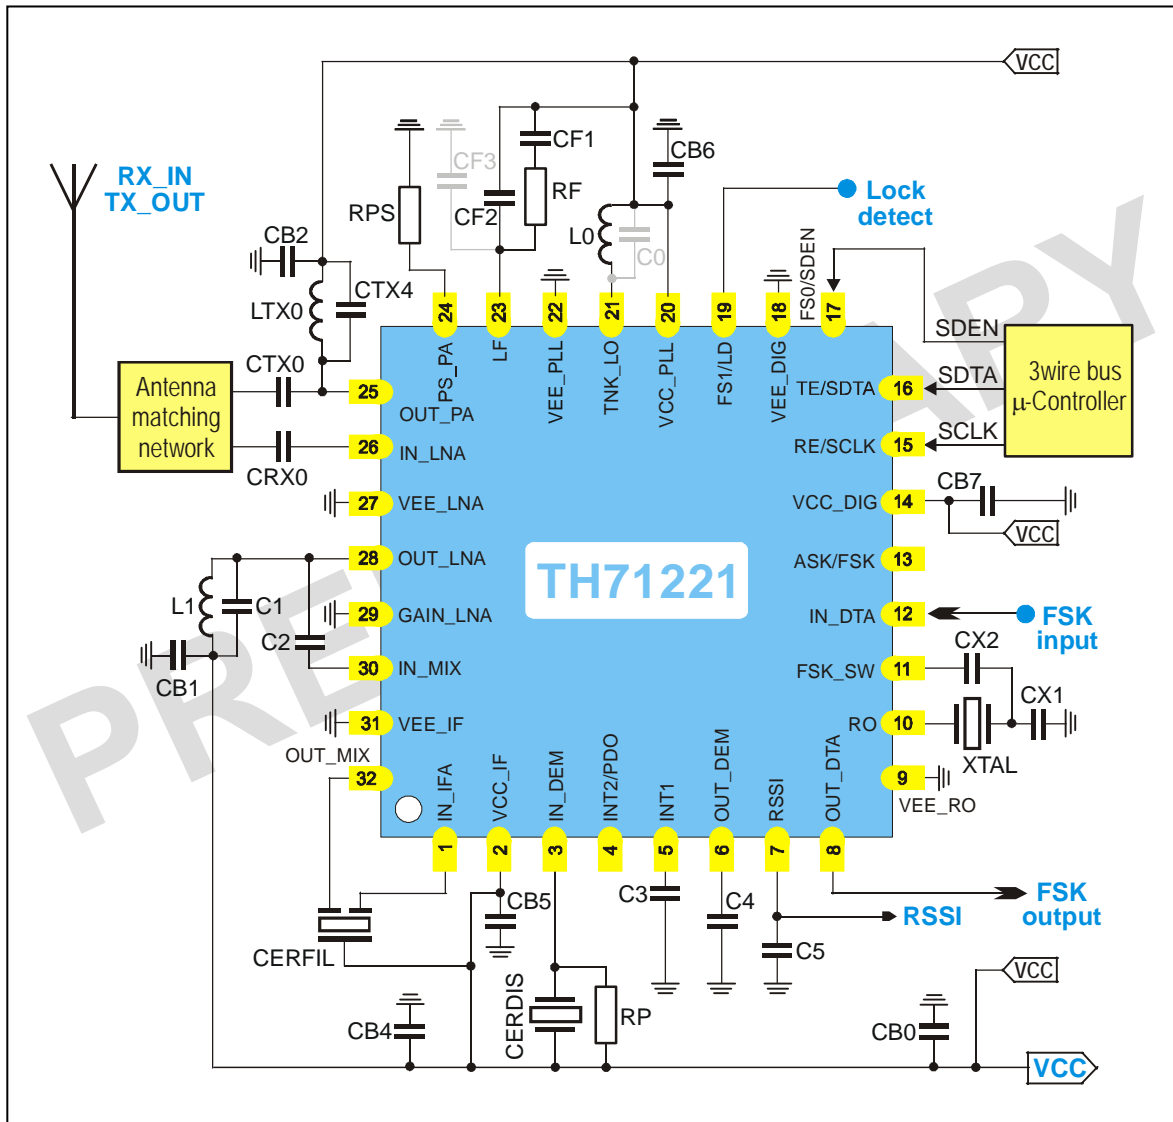
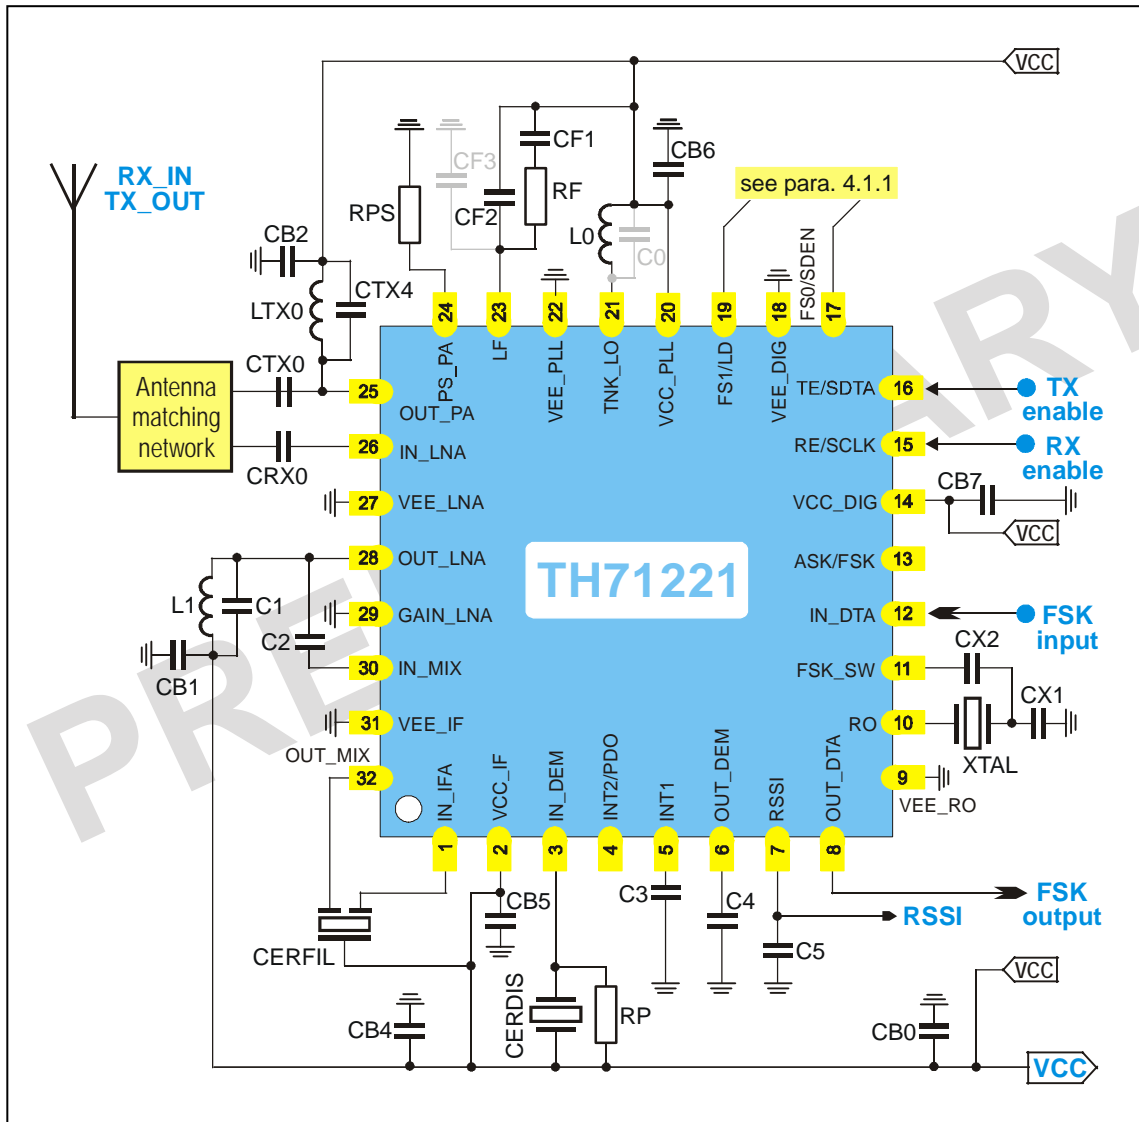
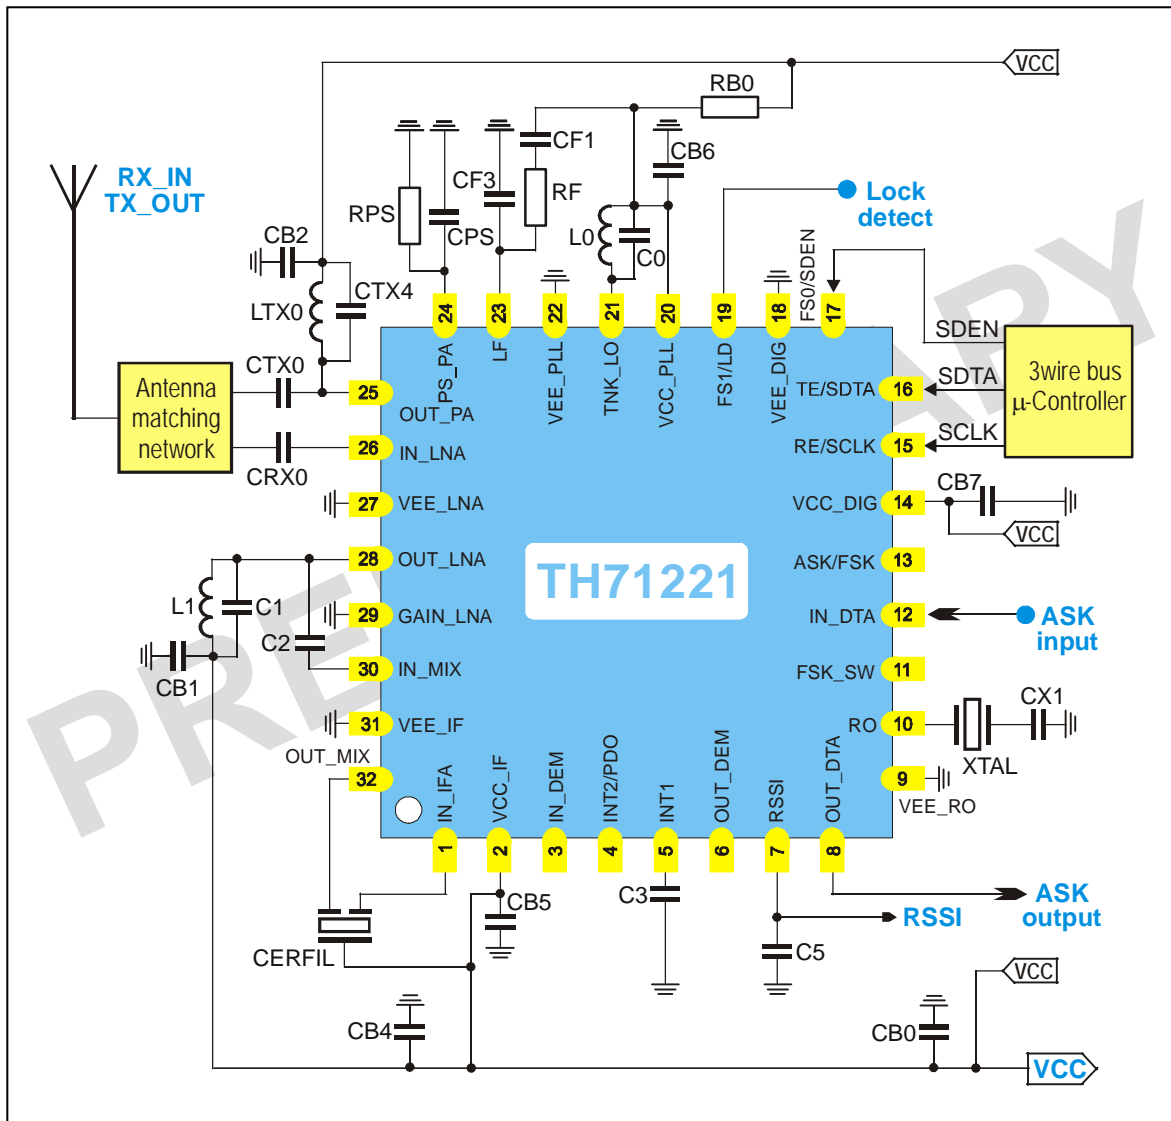

Fig. 14: Test circuit for FSK operation in Programmable User Mode (internal AFC by default)
Fig. 15: Test circuit for FSK operation in Stand-alone User Mode
Fig. 16: Test circuit for ASK operation in Programmable User Mode
all parameters under normal operating conditions, unless otherwise stated; all parameters based on test circuits for FSK (Fig. 14 to 15) and ASK (Fig. 16 to 17), respectively;
all parameters based on test circuits for FSK (Fig. 14 to 15), FM and ASK (Fig. 16 to 17), respectively;
7.3 FSK Test Circuit Component List (Fig. 14 and Fig. 15)
7.5 ASK Test Circuit Component List (Fig. 16)